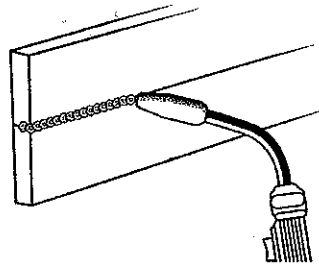

Figure 13. Horizontal Position Weld
2. The **HORIZONTAL POSITION** (Figure 13) is next in difficulty level. It is performed very much the same as the flat weld except that angle B (see **POSITION OF THE GUN TO THE WORK PIECE** - p14) is such that the wire, and therefore the arc force, is directed more toward the metal above the weld joint. This is to help prevent the weld puddle from running downward while still allowing slow enough travel speed to achieve good penetration. A good starting point for angle B is about 30 degrees **DOWN** from being perpendicular to the work piece.